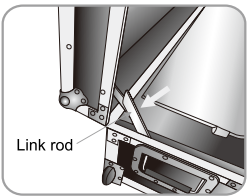

Figure 1
1. Open the flight case, press down the corner link rod as the arrow sign indicates till the rod fully outspreads, then take out the parts and lay it on a smooth location (Figure 1 - 2).